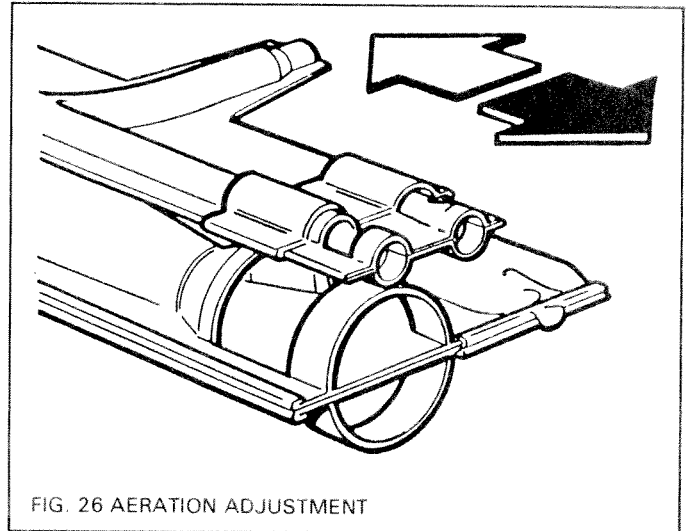

FIG. 26 AERATION ADJUSTMENT
- (d) Slide the aeration sleeve on the decorative flame burner either way to give the correct flame pattern (see fig. 26).